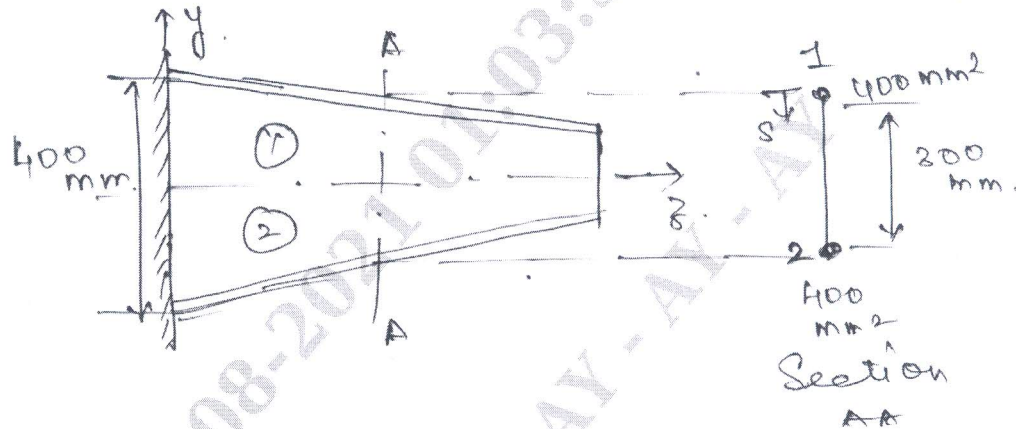

Fig. Q8
- 8 Determine the shear flow distribution in the web of the tapered beam shown in Fig. Q8 at a section midway along its length. The web of the beam has a thickness of 2 mm and is fully effective in resisting direct stress. The beam tapers symmetrically about its horizontal centroidal axis and the cross sectional area of each flange is  $400 \text{ mm}^2$ . (16 Marks)